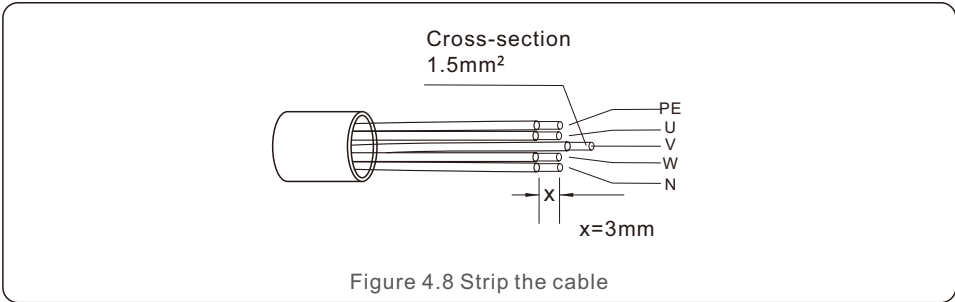

Figure 4.8 Strip the cable
- c. Strip the end of cable to 3mm (see Figure 4.8)